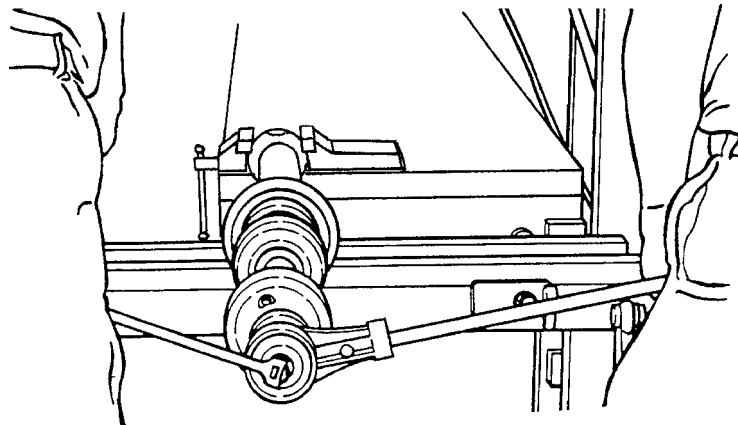

Fig. 10C.16. Removing the Piston Rod Nut
4. Remove the bolts and washer (16 and 17, Fig. 10C.12. and 10C.13.) securing cylinder cover (5) to gland (4) and tie the cover up to the socket cap as shown in Fig. 10C.15. to provide working clearance.
5. Using a brass drift as shown in Fig.10C.15, drive gland into cylinder housing (1) until the tension of the lock ring (6) is off.
6. Move O-Ring (18) and remove three piece lock ring (6) from cylinder housing and pull rod assembly out of housing.
7. Remove piston rod nut (7).
NOTE: It will be necessary to hold the ball end of the rod stationary when removing the nut. A suggested method is to clamp the ball end of the piston rod in a hydraulic press and use a torque multiplier as shown in Fig. 10C.16, or an impact tool.